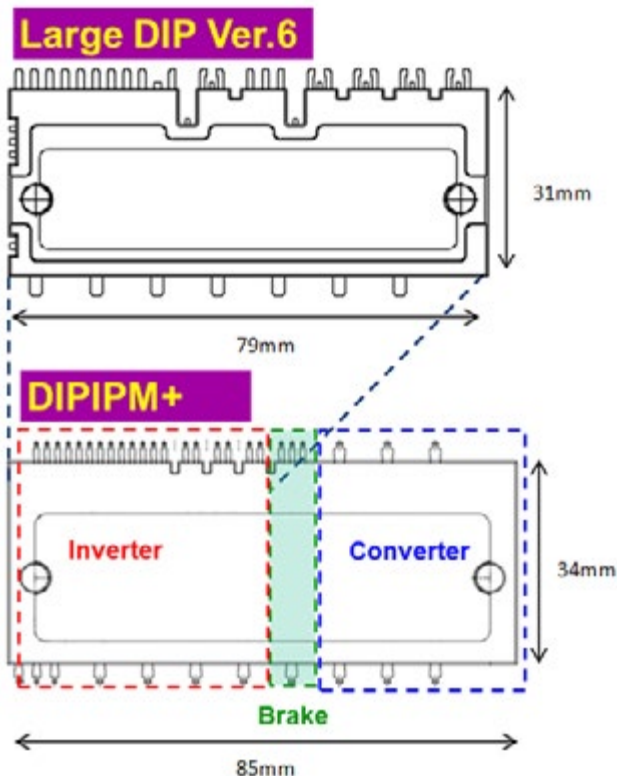

Figure 10: Conventional Large DIPIPM Ver.6 versus DIPIPM+™
F. The all-in-one DIPIPM+™ concept reduces the space needed for the 3-phase inverter part by about 50% compared with today's state-of-the-art 1200V DIPIPM, see Figure 10. In combination with optimized low loss IGBT- and FWDi-chips this leads to a remarkable reduction of heatsink size and thereby also to reduced dimensions of the inverter housing itself. As result the cost for mechanical parts in the inverter construction can be reduced.